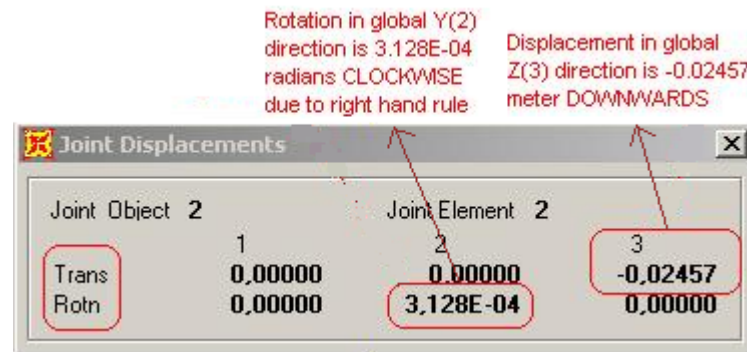

Figure 11
a) Deformed Shape: The default initial output of SAP2000 is the deformed shape of the structure. If you right click on B on this deformed shape, you can see the magnitudes of the deformations at the joint (Fig11).